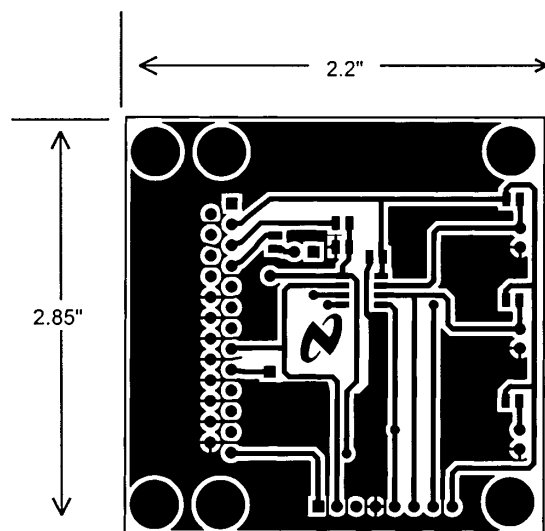

FIGURE 3. Printed Circuit Board Used for Thermal Resistance Specifications
**Note 5:** Thermal resistance of the SO-8 package is 200 $^\circ\text{C}/\text{W}$ , junction-to-ambient when attached to a printed circuit board with 2 oz. foil as shown in Figure 3.